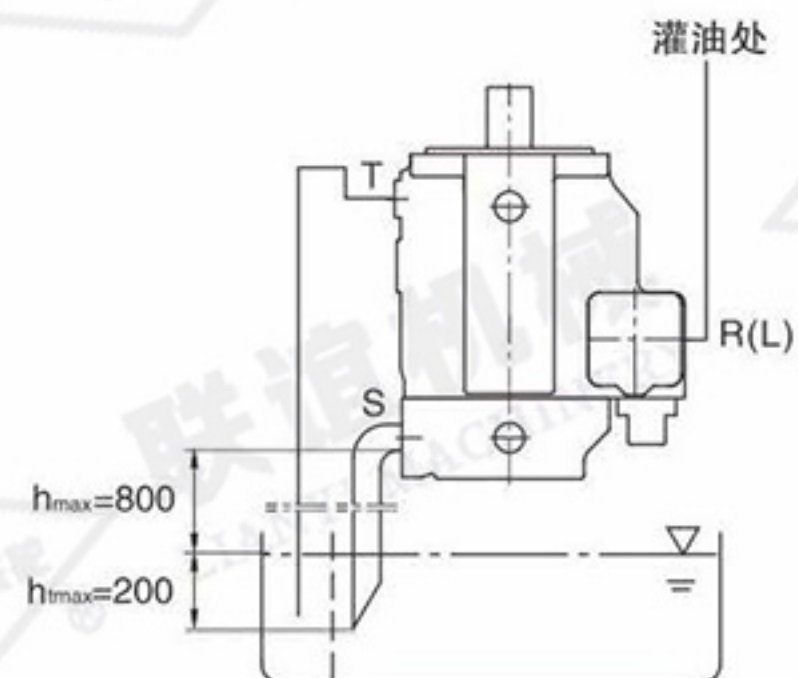

图2
b) 如油箱的最低液面低于泵的法兰面，《R/L》口、《T》口以及可能包括《S》口必须用管道连接，如图2所示。此情况与本节《安装在油箱外》中所述的相同。
When the minimum level in the tank is lower than the flange face of the pump, port R/L, T and possible port S must be connected with pipes, as shown in Figure 2. This situation is same as what is specified in Mounting outside of the Tank in this section.
在安装时的灌油：通过《R/L》口灌油，通过《T》通气，然后将《R/L》口堵死（见图2）。